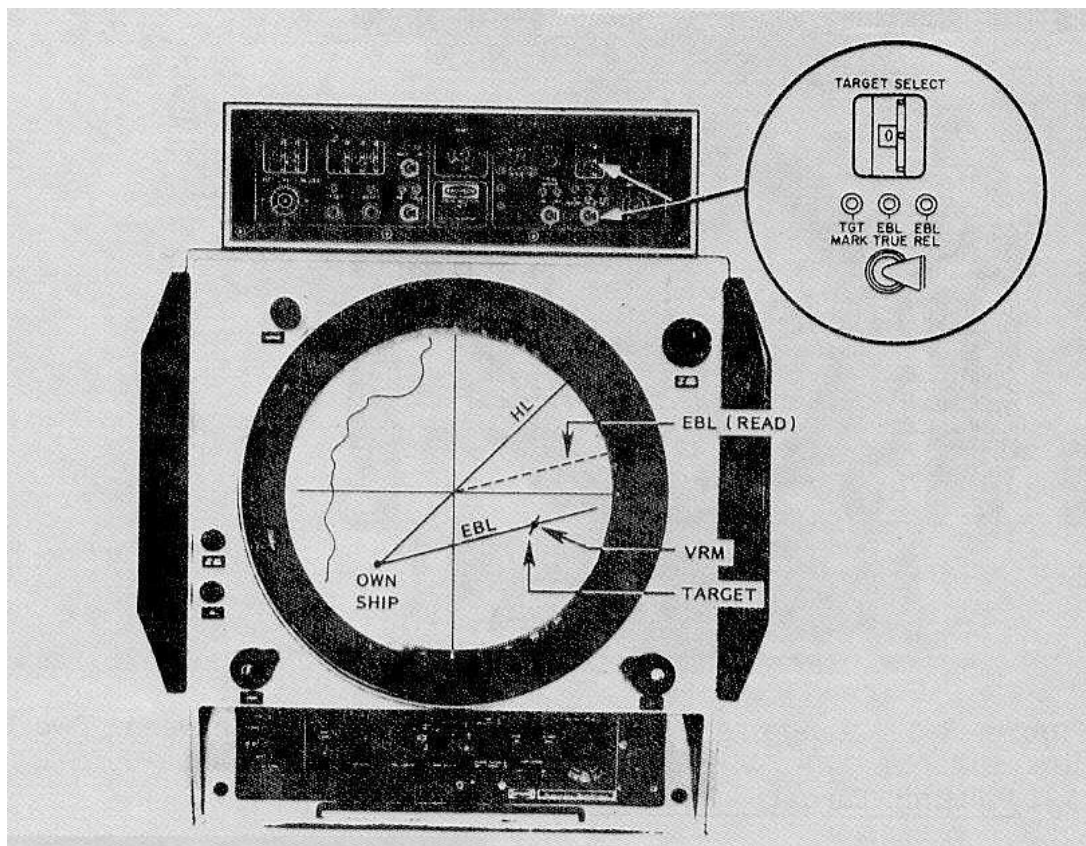

Figure 3-2 Range and Bearing Measurements from Own Ship
3.4.2.2 Range and Bearing Measurements From Own Ship (Figure 3-2)